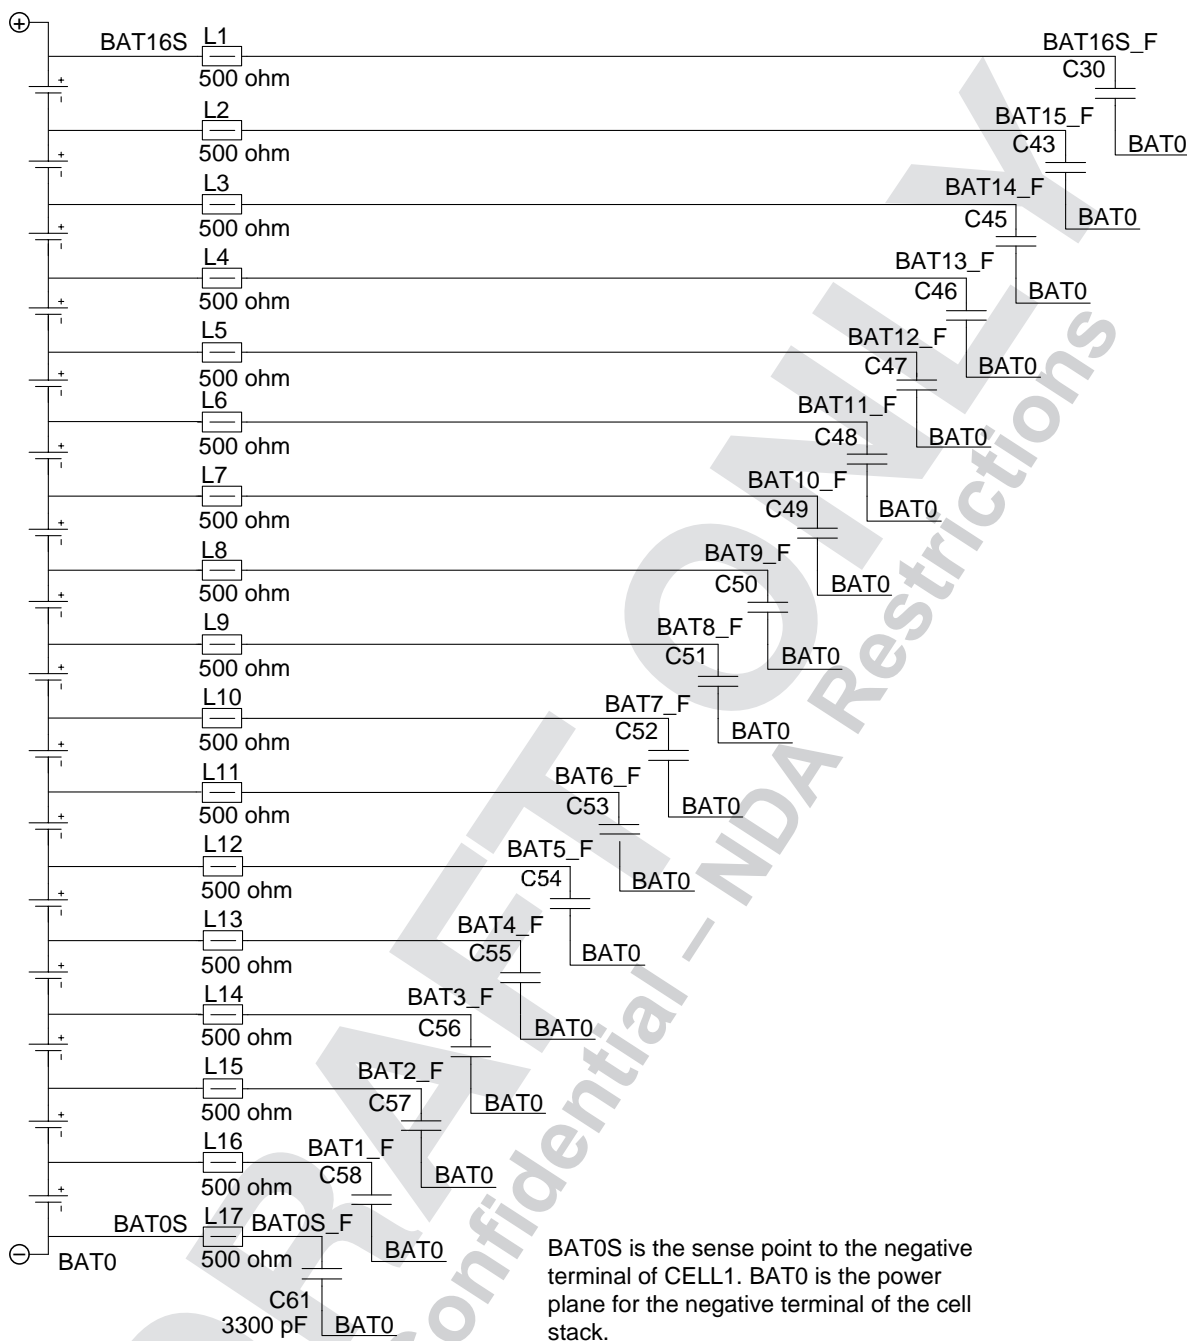

Figure 19. EMC Filter
- Add a 0.0033- μ F capacitor from each cell input to the battery pack (BAT0 in Figure 19). Adjust the value of capacitance to satisfy the PCB layout and field conditions for the application.